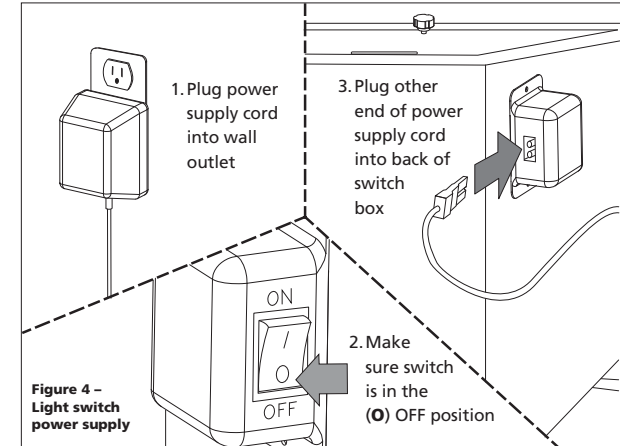

Figure 4 – Light switch power supply
4. Plug the 12V power supply into a 110V wall outlet (see Figure 4).
5. Making sure the switch is in the (O) OFF position, plug the other end of the 12V power supply cord into the light switch on the cabinet (see Figure 4).